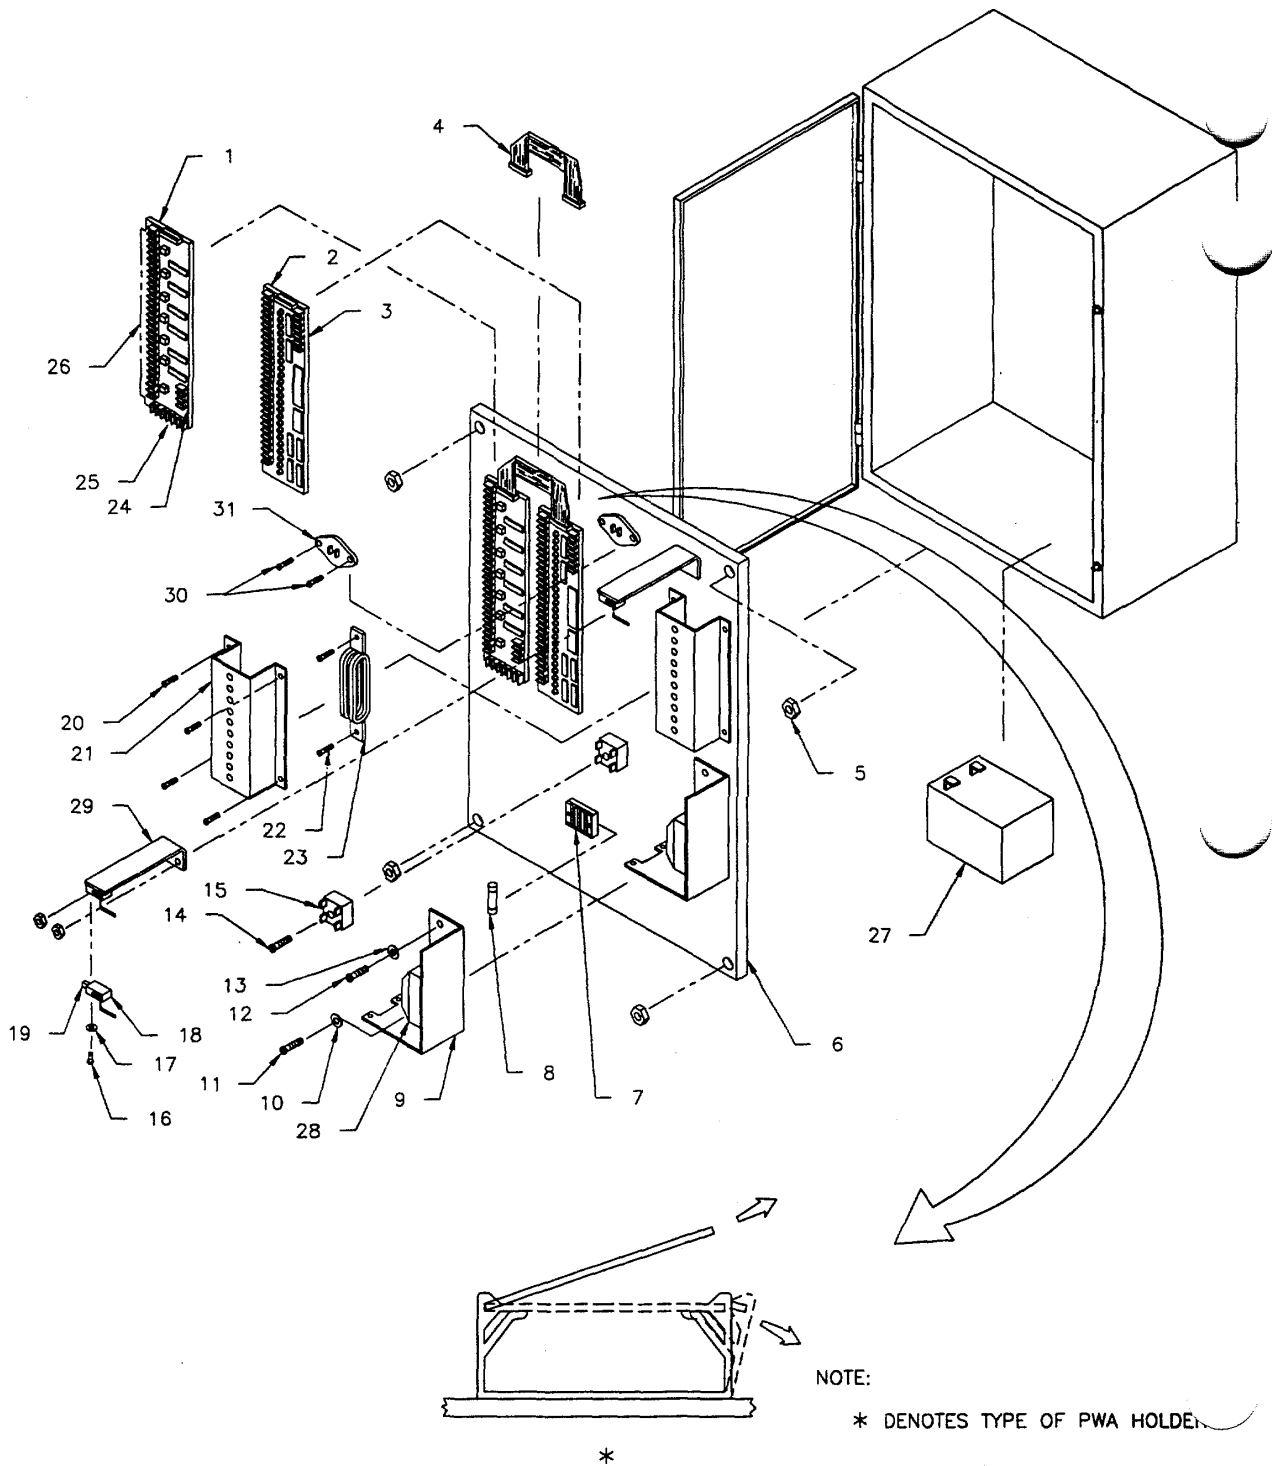

Figure 3-42. Removal and Replacement of SubRADDC (Leda), Interior Assemblies
- (1) Align the Leda Panel Assembly (13) mounting holes up with the enclosure standoffs and secure with five screws (9).
- (2) Reconnect slip on terminal strip to Leda Flex PWA TB-7 (3).
- (3) Connect the slip on terminal strips (12), (11) AND (10) to Leda Flex termination PWA.
- (4) Replace enclosure cover and secure.
**3-71. REPLACE LEDA FLEX PWA.** (See Figure 3-42).
- (1) Set link settings and/or switch settings exactly the same as removed PWA or refer to Appendix E, page E-44.
- (2) Press out on side of snap track PWA holder (e) and install Leda Flex PWA (2) in snap track alignment slots and release.
- (3) Connect ribbon cable (4) to Leda Flex PWA connector P1.
- (4) Connect slip-on terminal strip to TB-7 (3).
- (5) Replace enclosure cover and secure.
**3-72. REPLACE LEDA FLEX TERMINATION PWA.** (See Figure 3-42).
- (1) Set link settings and/or switch settings exactly the same as removed PWA or refer to Appendix E, page E-46.
- (2) Press out on side of snap track PWA holder (-) and install Leda Flex Termination PWA (1) in snap track alignment slots and release.
- (3) Connect the slip-on terminal board strips to TB-1 through TB-6 (12), TB-7 (11) and TB-8 (10).
- (4) Connect ribbon cable (4) to Leda Flex Termination PWA (1) connector PL1.
- (5) Reconnect input power.
- (6) Replace enclosure cover and secure.
**3-73. REPLACE TAMPER SWITCH. (See Figure 3-42).****This task covers:****a. Remove****b. Install**